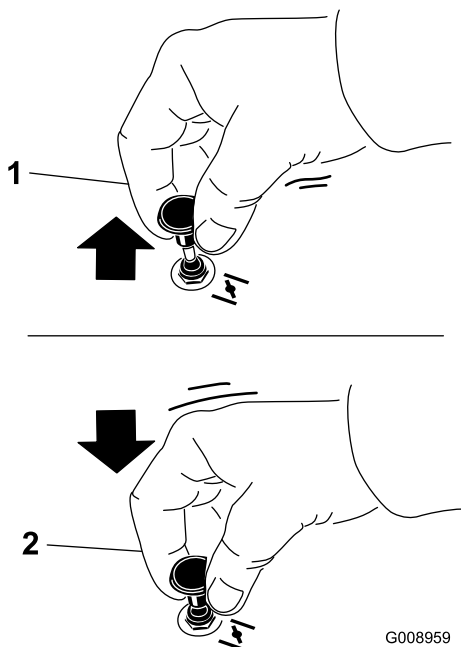

Figure 21
2. Pull up the choke knob to engage the choke before using the ignition switch (Figure 21).
3. Push down the choke knob to disengage the choke after starting the engine (Figure 21).